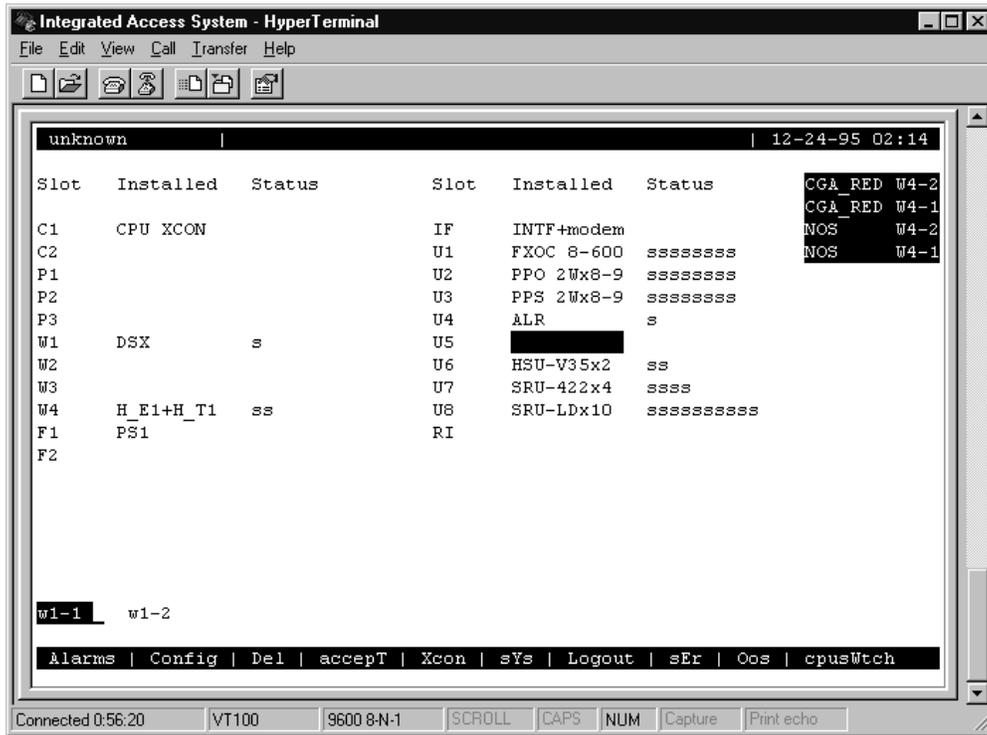

Figure 4-24. Typical WAN Card Selection
5. Select the WAN port to which you want to assign the voice cards (W1-1 or W1-2), as shown in Figure 4-24.